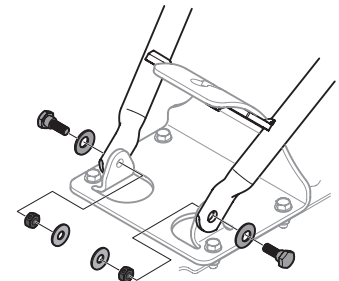

Figure 3
5. Loosely attach the handlebars to the mounting tabs with two shoulder screws (.437 x .268: 5/16 - 18), inserted through two Belleville washers (.450 x 1.0 x .062), then through the lower ends of the handle and the front holes on the bracket. Add flat washers (.349 x .879 x .063) on the ends of each and secure them by threading a hex lock nut (5/16-18) on each end. See Figure 3.